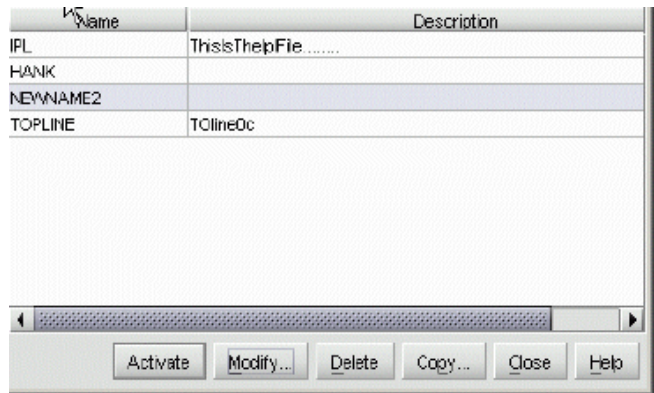

Figure 37 Configure Allow/Prohibit Matrix Configuration Library dialog box
Click **Activate** to display the Allow/Prohibit Matrix Configuration Library dialog box, as shown in Figure 37.
3. Click the squares to either prohibit or allow connections. In the Figure 37, port address 07 is prohibited from communicating with port address 05. Also, Port OC is prohibited from communicating with all other port addresses.